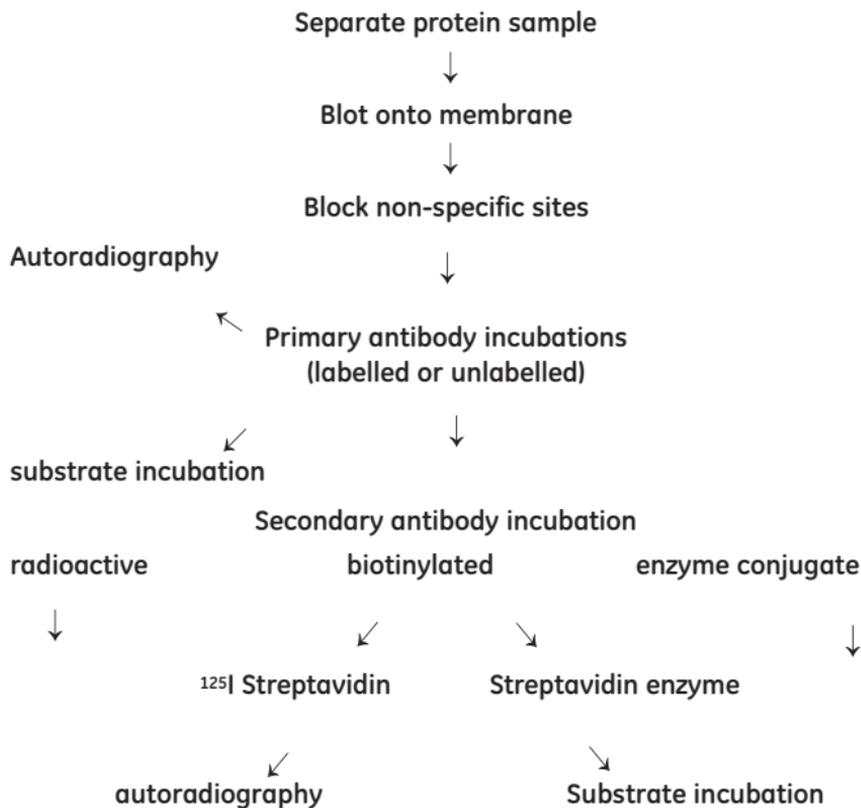

Figure 1. Flow diagram for protein blotting immunodetection
There are a number of procedures available for the immunodetection of proteins, suitable reagents are available from GE Healthcare. A flow diagram (figure 1) demonstrates the possible uses of some of these.
8. Proceed with one of the following detection systems, using an appropriate optimized dilution (see figure 1):